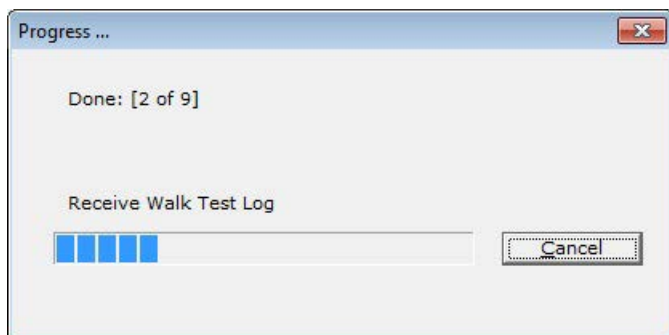
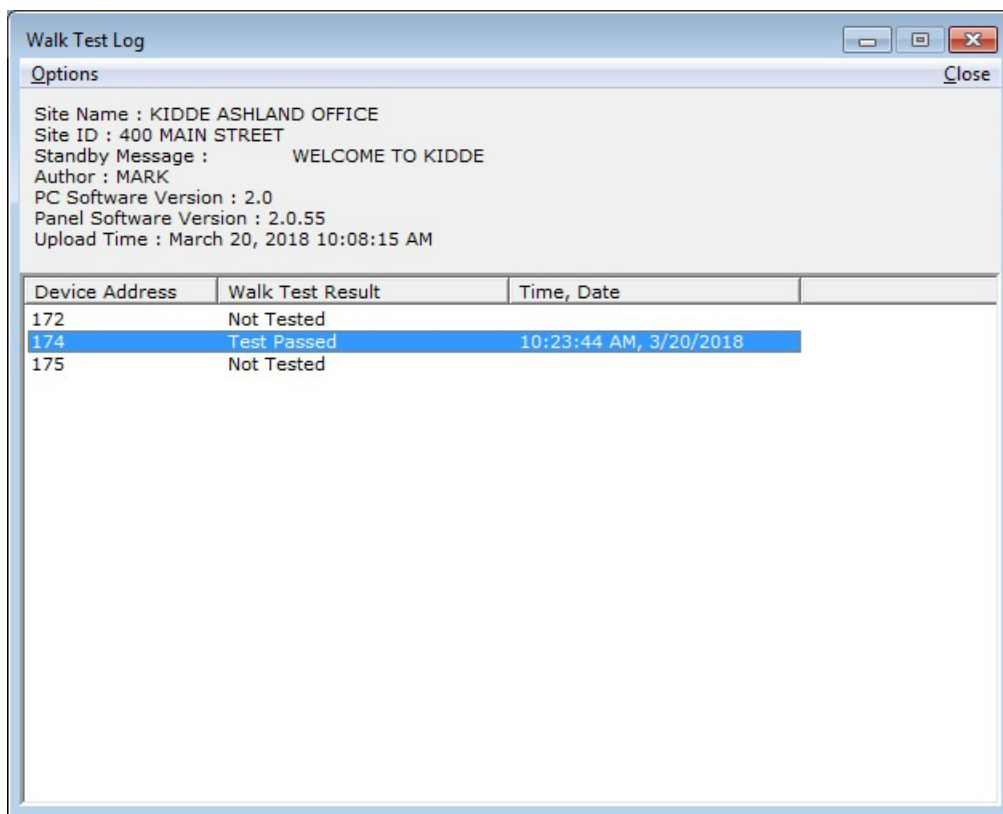

Figure 4-37. Receive Walk Test Log Progress
Figure 4-38. Walk Test Log
4. Select **<OK>**. In response, progression of the walk test log reception (Figure 4-37) is displayed. When it is complete, the walk test log (Figure 4-38) is displayed. Within the Walk Test log, there are two menu options: **Save As** and **Print**.